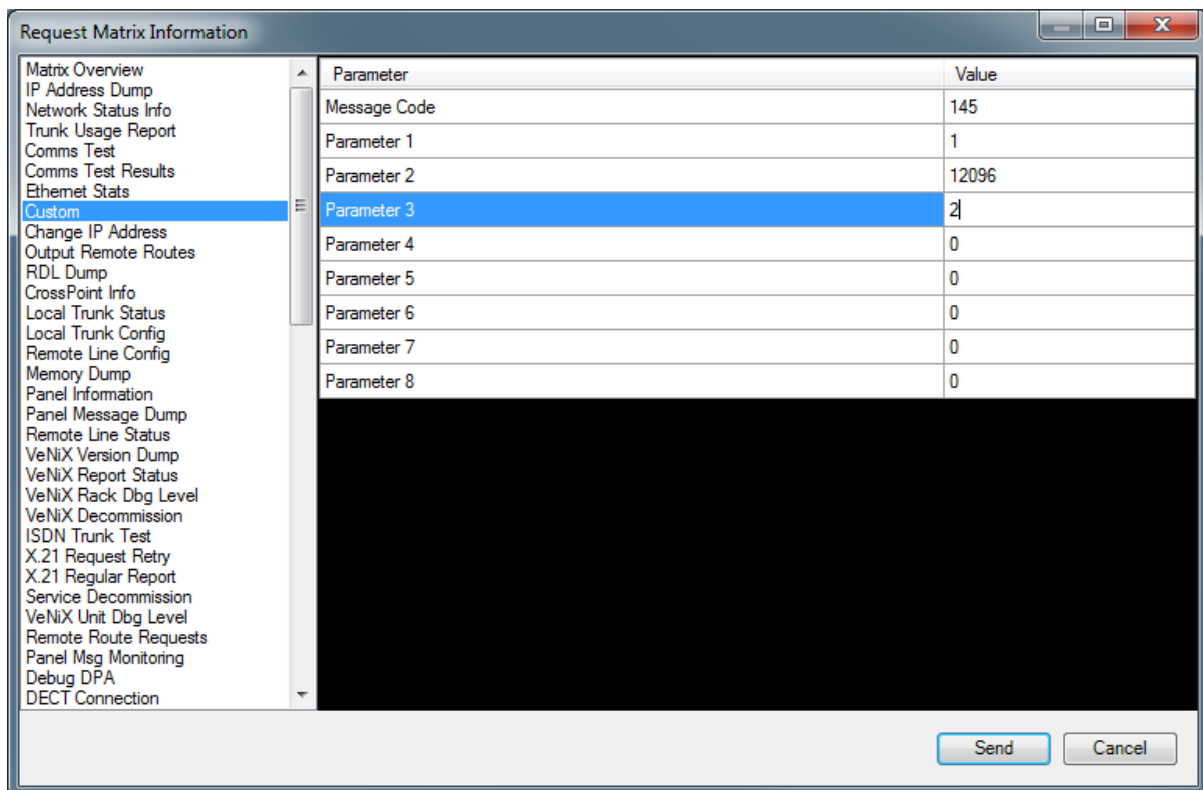

Figure 5-12: Setting the matrix type
- 3) Click Request info. In the dialog (see *Figure 5-12: Setting the matrix type*), enter the following custom command: